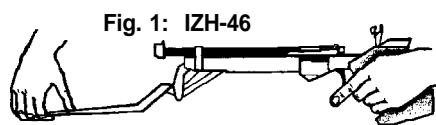

Fig. 1: IZH-46
**A)** Grasp the pistol by the pistol grip with your dominate hand. Keep your fingers off the trigger and away from the breech / bolt. With the barrel pointing in a safe direction, pull the cocking handle forward until you see the bolt assembly pop up to a 90 degree angle from the firing plane or you feel a light click (Warning do not over travel or force the cocking handle or you could damage your pistol). At this point the bolt should be locked up and the air bypass should be closed (See Figure 1). Do not pull past the click sound / feel and **never use excessive force when cocking the air pistol.**